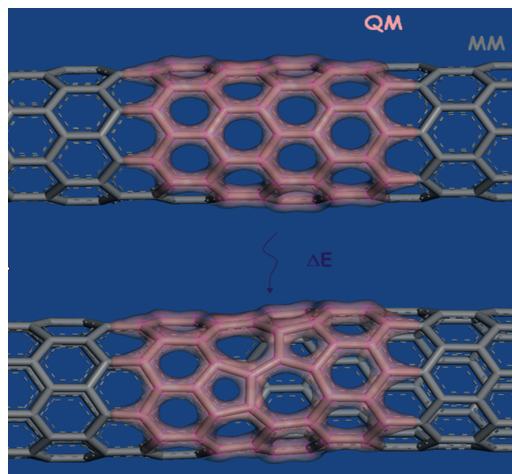

Figure 2: A study of the formation energy of a Stone-Wales defect on a carbon nanotube using QMERA.
- Probe multiple defect sites on a carbon nanotube (see Figure 2)